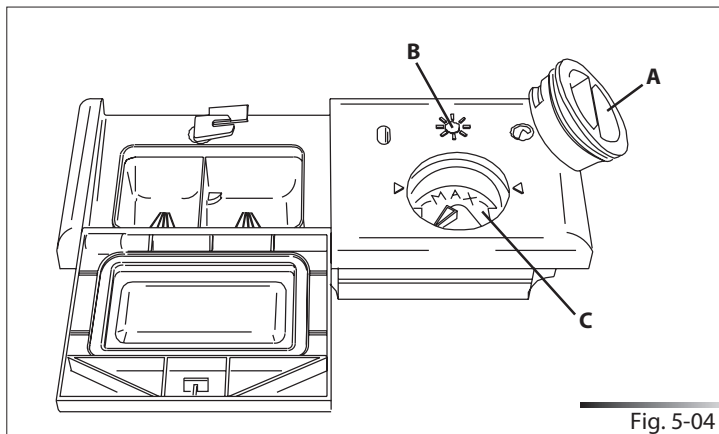

Fig. 5-04
- Rotate the container cover (ref. A fig. 5-04) anticlockwise by  $\frac{1}{4}$  of a turn and remove it.
- Add the rinse aid until the container is full (approximately 140 ml). The optical level indicator (ref. B fig. 5-04), on the side of the cap should be completely obscured. Refill the rinse aid when the optical level indicator becomes clear again, or when the rinse aid warning light illuminates (see "Description of controls" manual).
- Replace the cover (ref. A fig. 5-04) by turning it in a clockwise direction until it is fully closed.
The rinse-aid dispenser can be set to one of 6 different levels. The dishwasher is factory set for medium water hardness (selector set to "3"). To change the setting, turn the dispenser selector (ref. c fig. 5-04) to the desired position: the amount of rinse-aid dispensed is proportional to the position of this selector. Make sure that the minimum amount of rinse-aid (selector turned to "1") is approximately 1 ml and the maximum amount (selector turned to "6") is approximately 6 ml.
- To adjust the rinse aid setting, rotate the dispenser cover (ref. A fig. 5-04) through a quarter turn in an anticlockwise direction and remove it.